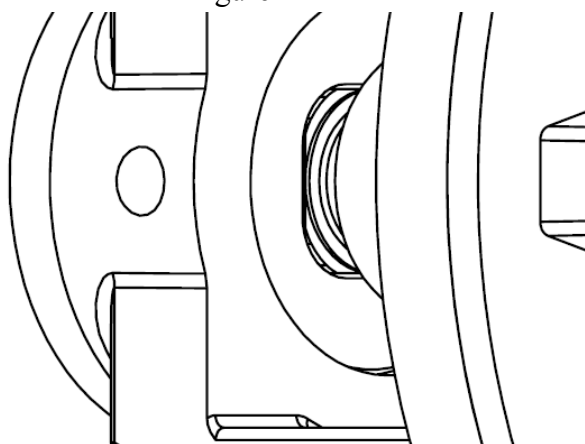

Figure 13
5. Line up a flat on the stationary seal to the a flat of the window of the casing and gently press the stationary seal into the casing bore. See figure 13.